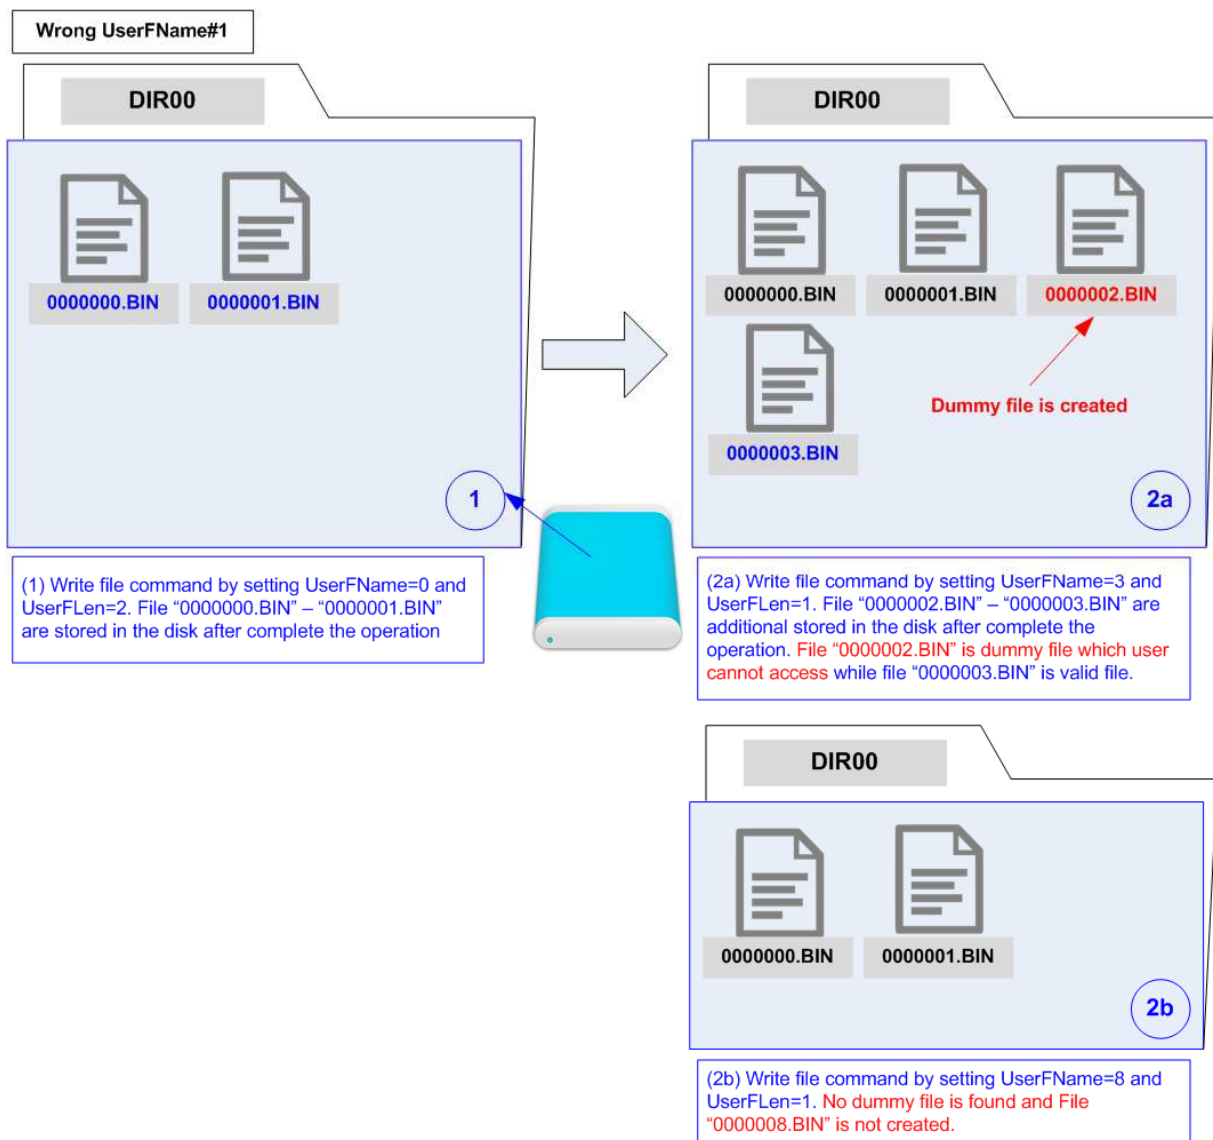
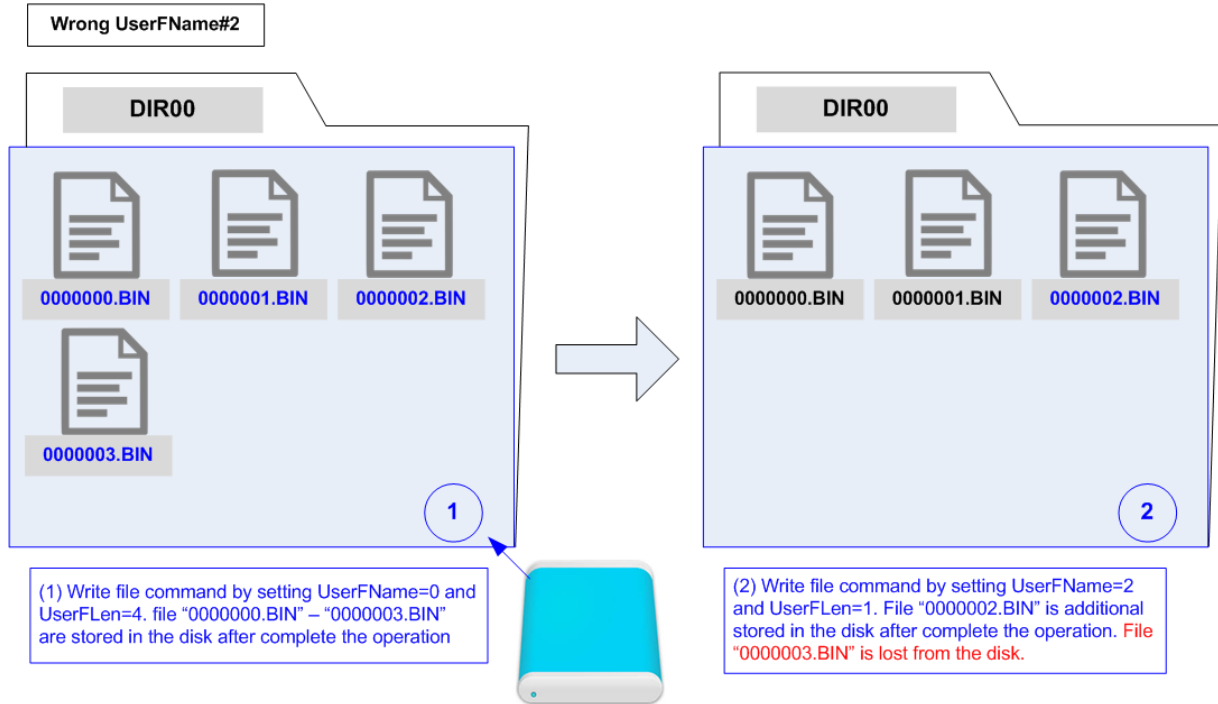

Figure 9: Write file command but UserFName is more than normal value
Figure 10: Write file command but UserFName is less than normal value
The example to set the wrong value of UserFName is shown in Figure 9 - Figure 10.
- (i) Dummy file is created between the latest write file and the new file, as shown in (2a) of Figure 9. File 0000002.BIN is dummy file which consists of random data is generated when UserFName input is equal to 3 instead of 2 which is correct value.
- (ii) No file is additional created, as shown in (2b) of Figure 9. If UserFName input is much skipped than correct value, there is no additional file created. For example, UserFName is equal to 8 instead of 2 which is correct value.
- b) When UserFName is less than (the latest write file name + 1), some old files which are more than UserFName may be deleted, as shown in Figure 10.